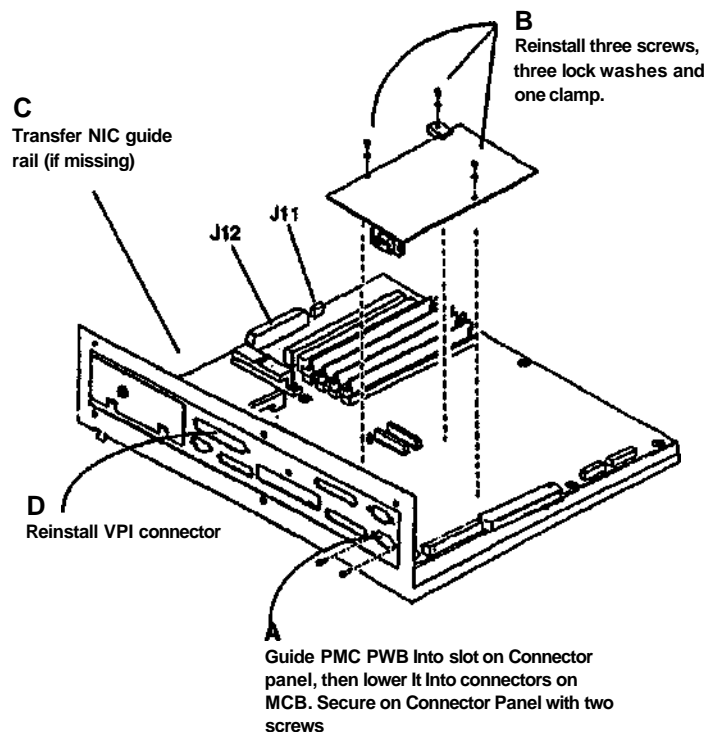

Figure 11 Remounting the PMC PWB
23. (Figure 11): Reinstall the PMC PWB onto the 8830 Controller MCB.
24. Reattach plugs P11, and P12 to J11 and J12 on the MCB prior to performing the next step. (See Figure 11 for location).